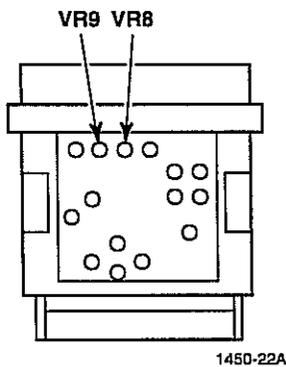

Figure 3-17.
- b. Adjust VR8 (Figure 3-17) for  $1.50 \text{ VDC} \pm 0.05 \text{ VDC}$ .
- b. Adjust VR9 (Figure 3-17) for  $1.50 \text{ VDC} \pm 0.05 \text{ VDC}$ .